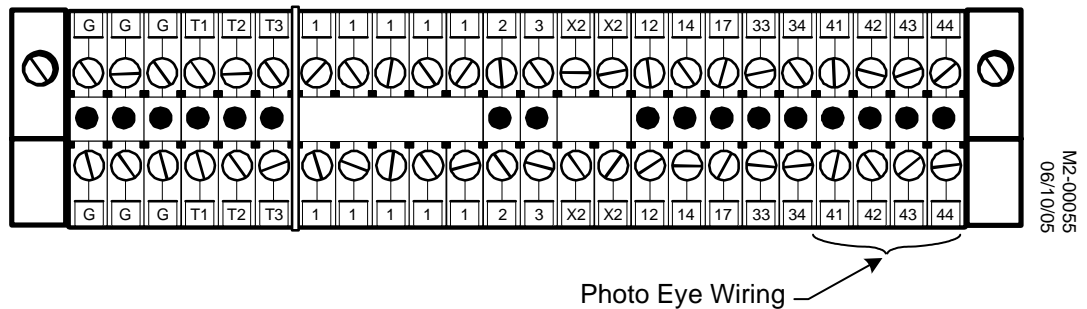

Figure 3-5: Photo Eye Connections on Terminal Block
3. Connect the photo-eye wiring to the terminal block. See Figure 3-5.